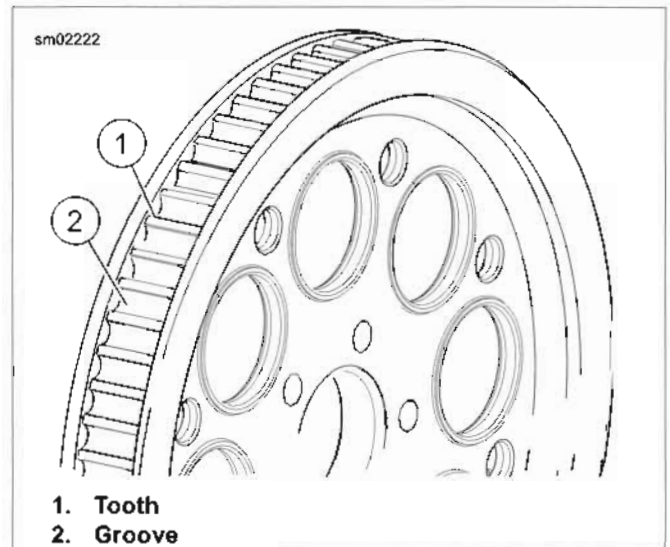

Figure 1-20. Rear Sprocket
1. See Figure 1-20. Inspect each tooth (1) of rear sprocket for:
2. To check if chrome plating has worn off, drag a scribe or sharp knife point across the bottom of a groove (2) (between two teeth) with medium pressure.